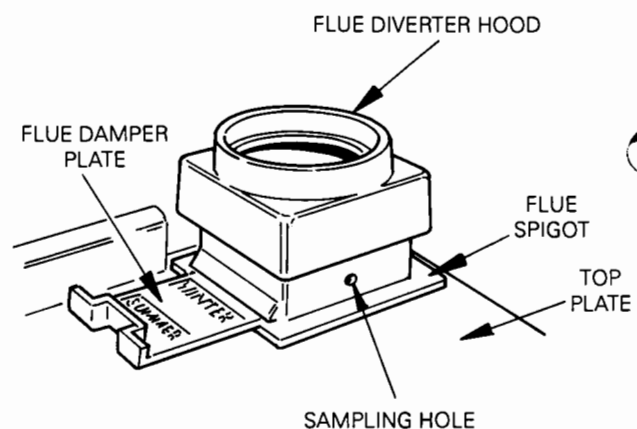

Fig.5 Flue assembly
2. Locate flue hood (flat face at the back) on flue outlet spigot and insert flue damper plate by tilting it to engage in slot. See Fig.5.